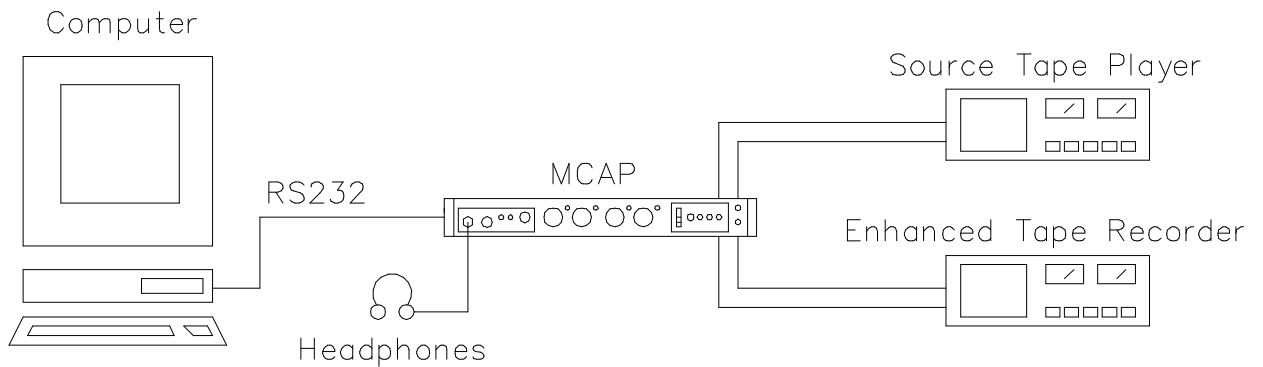

Figure 3-1 MCAP Connection Diagram
1. Connect the LEFT and RIGHT channel line-level audio outputs (AUDIO OUT jacks) of your Source Audio Player to the LEFT (PRI) and RIGHT (REF1) ANALOG MAIN INPUTS BNC jacks on the MCAP external processor rear panel as shown in Figure 3-1. Note that the RIGHT (REF1), LREF (REF2), and RREF (REF3) signals are only used in stereo configuration and/or with the Ref Cancellor Filter in any configuration.
2. If you wish to record the enhanced audio, connect the line-level audio inputs (AUDIO IN jacks) of your Enhanced Audio Recorder to the LEFT (MONOUT) and RIGHT (MONOUT) ANALOG MAIN OUTPUTS BNC jacks on the MCAP external processor rear panel as shown in Figure 3-1.
3. Connect your stereo headphones to either of the two PHONES jacks on the MCAP external processor front panel as shown in Figure 3-1. Turn the phones VOLUME control to MIN. It is also recommended that headphones be connected to the Enhanced Audio Recorder's headphone jack to confirm that the output signal is being properly recorded.